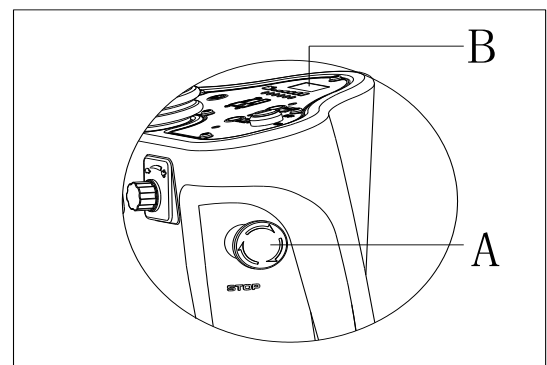

Figure 5
If there is any emergency during machine operating, press the emergency switch (A, Figure 5), then all functions of machine will stop, there is no display on control panel (B, Figure 5).
1. Insert key switch (40) and turn to "ON".
2. Press the pedal (6) forward by foot to lift brush assembly (11) from the floor.
3. Rotate speed adjusting knob (42) in counterclockwise until the end.
4. Place the brush (A, Figure 5) or pad (B, Figure 5) center align with brush deck.
5. Press the pedal (6) backward by foot to lower down brush assembly (11). Sit on the seat, press the brush button (39) and depress the pedal (23) slightly, the brush/pad can be assembled automatically. Repeat these steps until brush/pad is installed.
7. Depress the pedal (6) forward by foot to lift the brush assembly (11) from floor, press brush remove button (41) to uninstall it automatically.